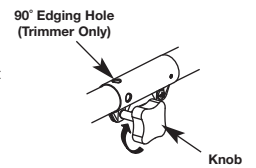

Fig. 3
1. Turn the knob counterclockwise to loosen (Fig. 3).
2. Turn knob counterclockwise to loosen (Fig. 3).
4. Turn the knob clockwise to tighten (Fig. 3).